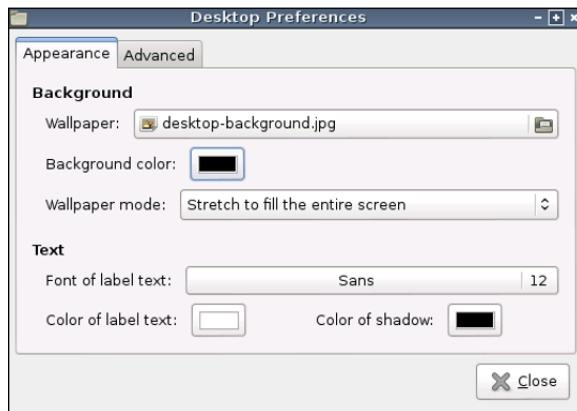

Figure 12-14:
2. Make your selections for customizing your desktop (see Figure 12-14).